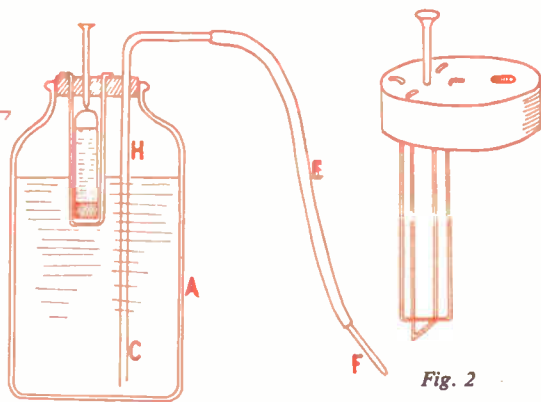

Fig. 2
Fill a strong wide necked jar (A) in Fig. 2 about three quarters full of water. Add sodium bicarbonate (baking powder) to the water until no more will dissolve on stirring with a glass rod. Fix two pieces of wire, a nail and a glass tube (C), into a cork which fits tightly into the neck of the bottle as shown.
Good service cannot be expected from blunt chisels so it is essential that they are kept sharp at all times. If you examine the cutting edges of your chisels you will find that there are two distinct angles; a grinding angle and a sharpening angle. These are usually 25 degrees and 35 degrees respectively as shown in Fig. 2. The grinding of a chisel is done on a grinding wheel which can either be driven with the aid of an electric motor or be hand operated. For the sharpening process, an oilstone is required.